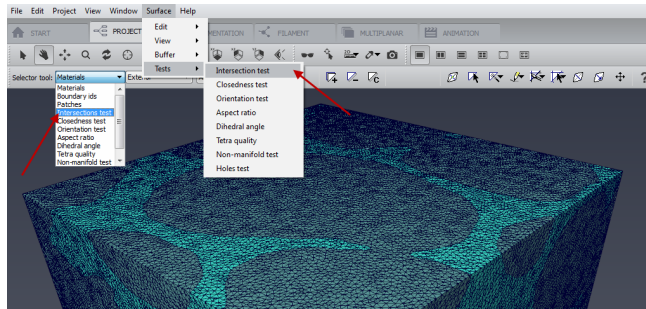

Figure 7.18: *Surface Editor* intersection testing submenu.
- Open the *Surface* menu and in the *Tests* submenu, select *Intersection test*. You can alternatively pick the *Intersection test* in *Selector tool* of the tool bar (see Figure 7.18).